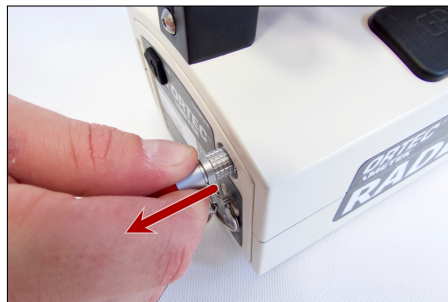
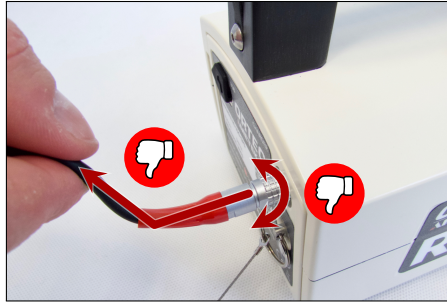

Figure 141: Unplugging the external power connection
Figure 142: Do NOT rotate the connector, do NOT bend or pull at the power cable!
- ⚠ Always grab the plug when handling the connection (Fig. 141, p. 114). Do not pull at the cable behind the plug (Fig. 142, p. 115).